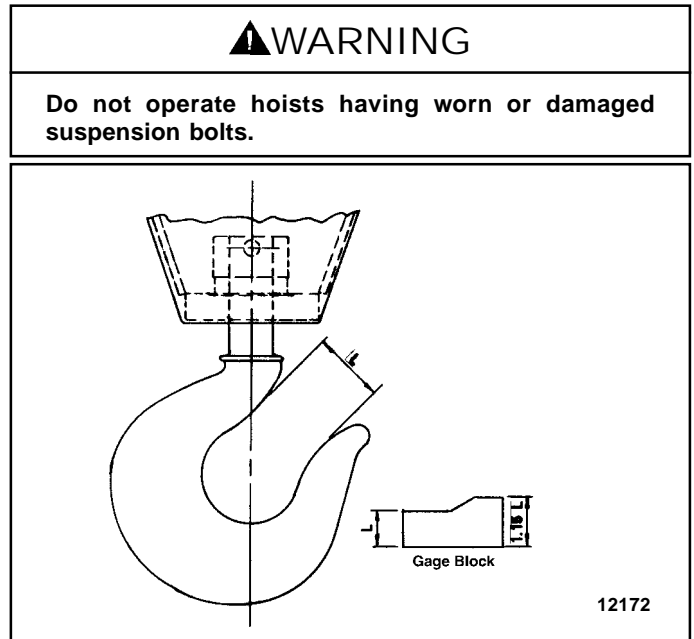

Figure 5-1. Method of measuring hook throat opening
- f. Check throat opening of hook. (Refer to Figure 5-1.) It is recommended that upon receipt of the hoist, a measurement be made and recorded of the hook throat opening. OSHA regulations require that the hook be replaced if the throat opening exceeds 15 percent of the original opening, or if the hook is twisted more than 10 degrees from the unbent plane. A gage block, properly identified to the hoist, similar to the one shown in Figure 5-1 is suggested to be made for each hook for use in these measurements.